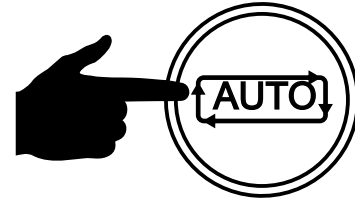

Figure 80. Auto Button
- Press the **AUTO** button (Figure 80) on **all** controllers in the system.